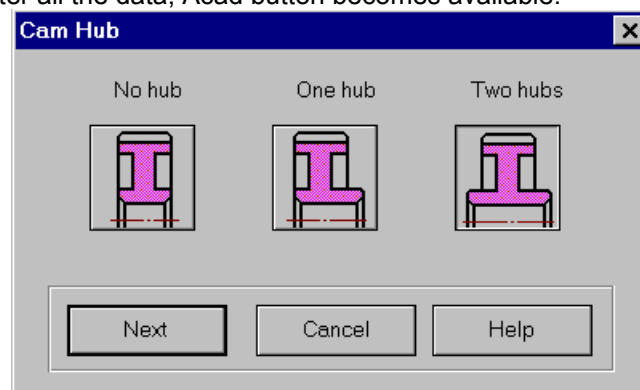

Fig. 6.13 The Cam Hub dialog box
- The *Cam Hub* dialog box (fig.6.13)